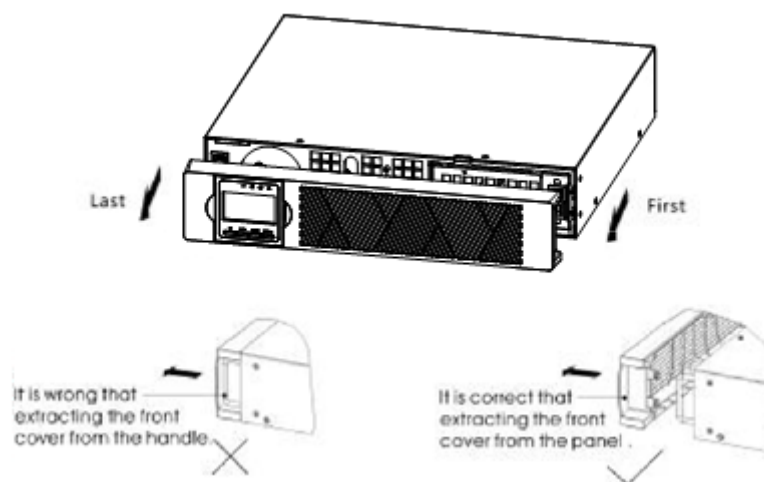

Figure 8: Removing the EBP Front Cover
- (1) To install the optional EBP(s) for a UPS**
- a) Remove the front cover of each EBP and UPS (see Figure 8).